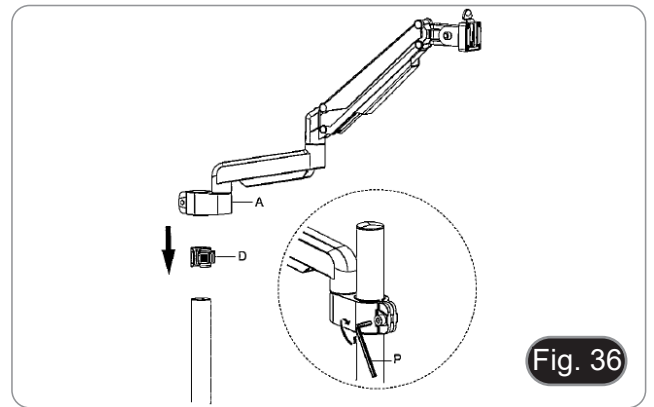

Fig. 36
- **NOTE: The plastic cover (H) also serves as a container for the Allen keys used for assembly and tension adjustment of the various parts.**
6. Insert the drop preventing ring (D) in the pillar.
7. Insert the flexible arm (A) and tighten the fixing screw. (Fig. 36)
10. Mount the focus on to the arm, using the provided screws and Allen wrench. (Fig. 36)